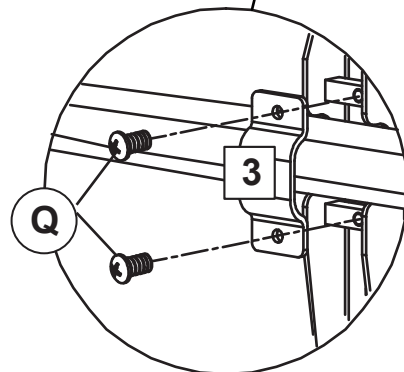

Fig 4b
2. Securely attach the **Security Bracket Clamps (3)** to the **Brackets (2)** using the **Security Bracket Clamp Screws (Q)** and the phillips end of the **Allen Wrench (4)**(Fig. 4b).